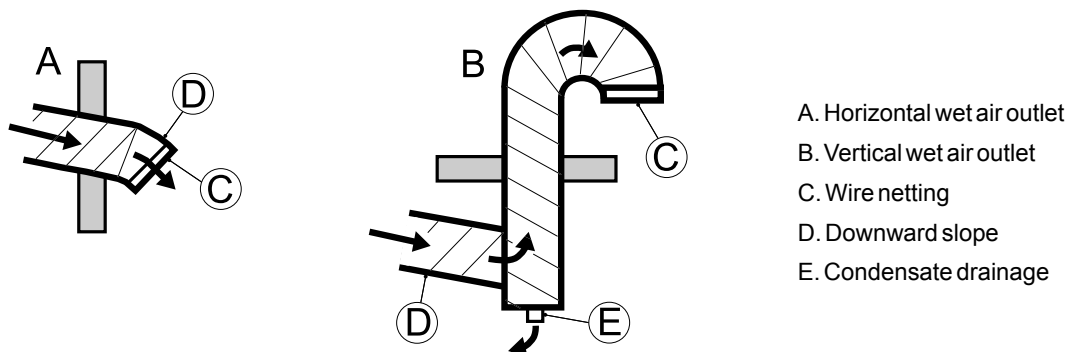

Figure 4.6 Wet air outlet design
- Horizontal wet air ducts must be installed with a slight decline (away from the dehumidifier) to drain away possible condensation. Suitable condensation drains must be installed at low points in the wet air outlet duct, see *Figure 4.6*.